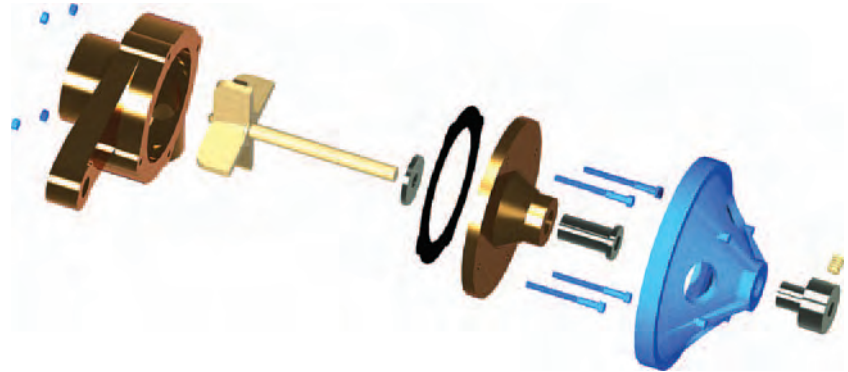
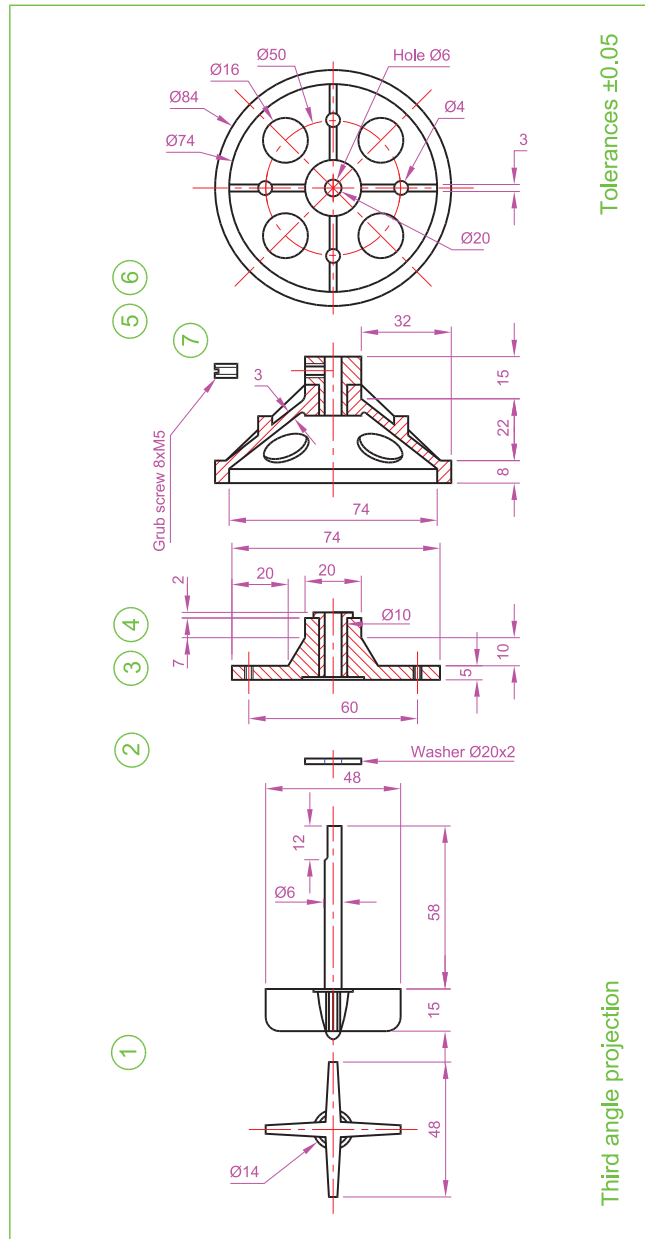

Fig. 15.40 Third example – Rendering
Fig. 15.41 Third example – Rendering a 3D model – exploded orthographic views
Third example – Rendering a 3D model (Fig. 15.40)
Figure 15.40 shows an exploded, rendered 3D model of a pumping device from a machine and Fig. 15.41 a third-angle orthographic projection of the device from a machine.
6. With the cursor inside any one of the small quadrant circles the 3D model can be moved vertically or horizontally as the mouse is moved (Fig. 15.41).